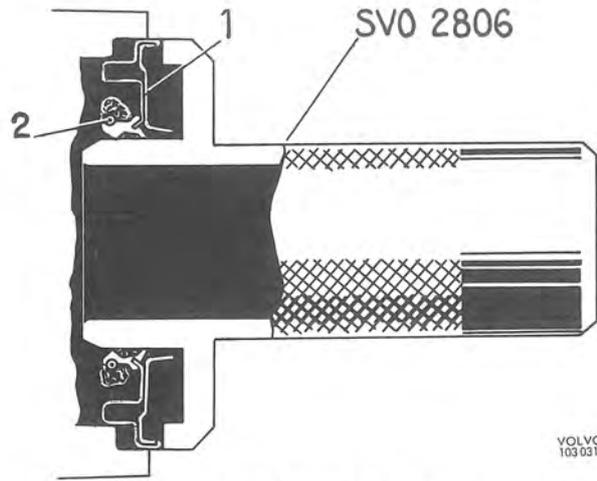

Fig. 4-139. Fitting the oil seal
3. Fit the new oil seal with tool SVO 2806. When fitting the oil seal, lubricate the seal lips with grease. At the same time apply a layer of grease to the spring coil. See Fig. 4-139. This last-mentioned measure is made to prevent the spring coil from jumping out during fitting.